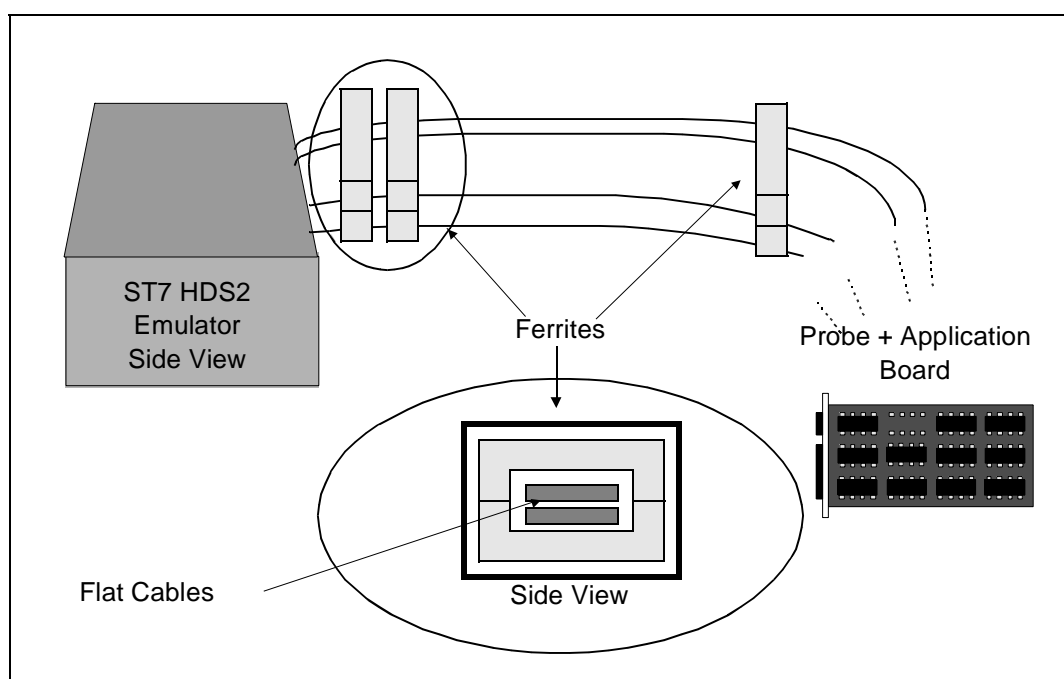

Figure 6: Making your emulation probe EMC-compliant
- 3 EMC-Compliant Probes:** In order to work under an EMC-compliant environment, you will have to clip two or three EMC-ferrites on the 50-wire flat cables linking the probe to the emulator box. Place these ferrites as close to the emulator window as possible. Three ferrites are provided in the package. See *Figure 6* for an illustration of where to attach the ferrites.